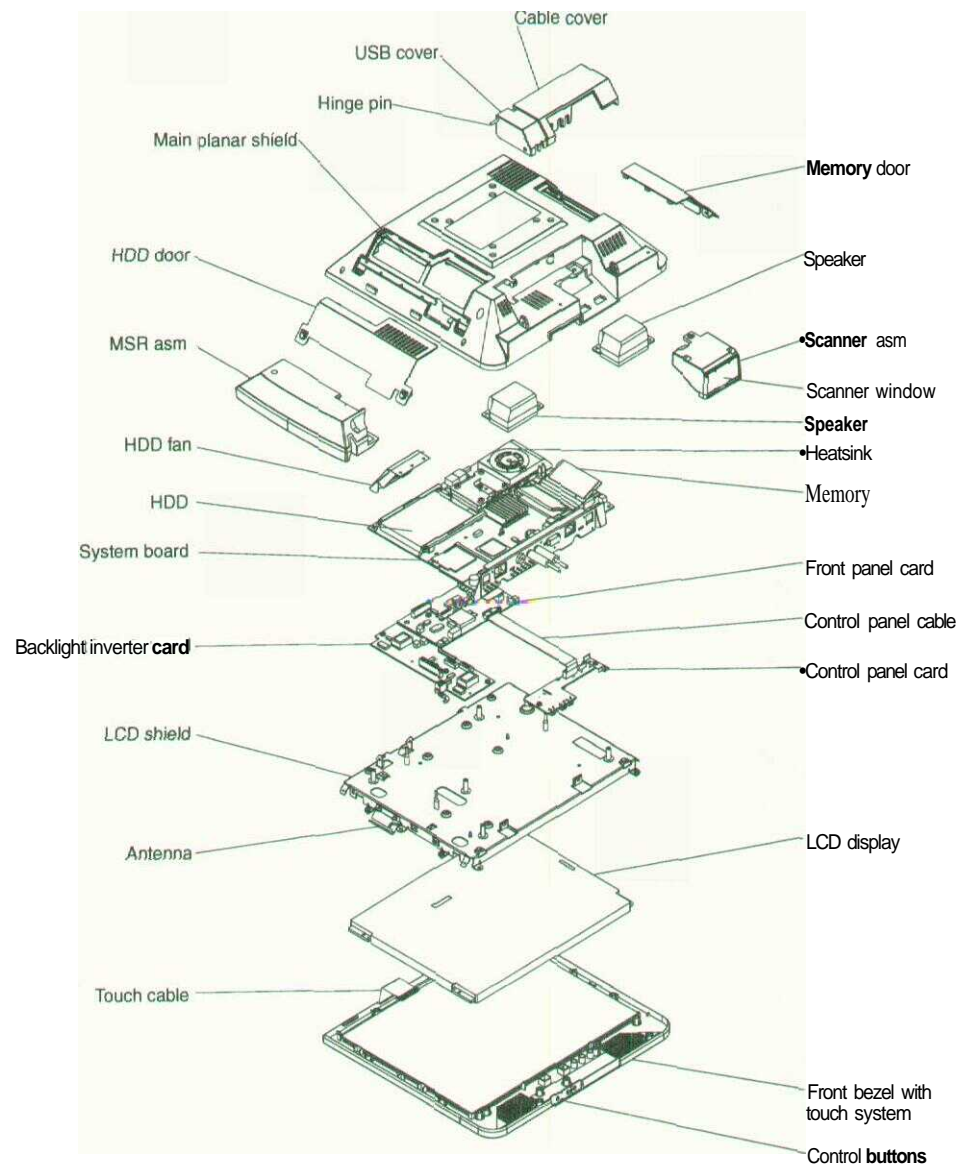

Figure 15. Exploded view of the IBM 4836/4838 assembly
Figure 15 summarizes the field replaceable parts of the IBM 4836/4838 assembly. The part number associated with each FRU is located in Appendix A, "Field-replaceable units."
2. Remove the hinge pin (see Figure 15 on page 30) and lift to remove the covers.